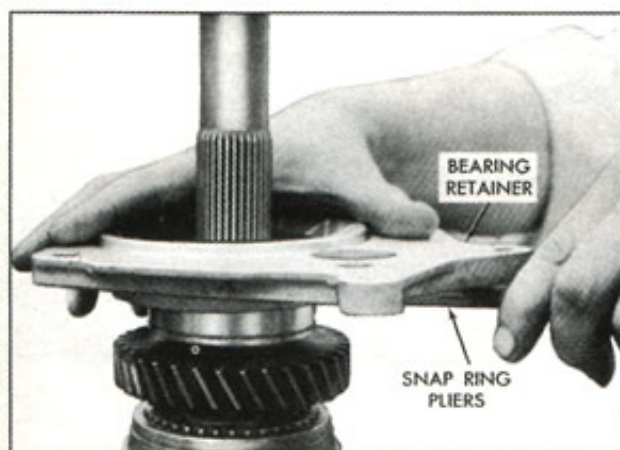

Fig. 8—Removing Rear Bearing Retainer
2. Spread rear bearing retainer snap ring (Fig. 8) and slide retainer from mainshaft.